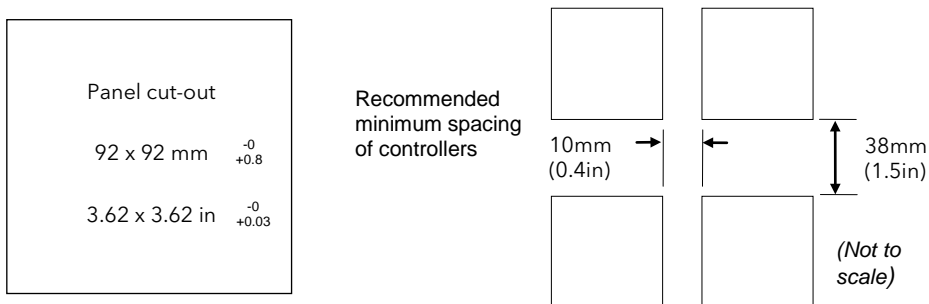

Figure 2-2: Panel Cut-out and Minimum Spacing Requirements
1. Prepare the panel cut-out to the size shown in Figure 2-2. Ensure that there is sufficient spacing between instruments as shown by the minimum dimensions given in Figure 2-2. Ensure also that the controller is not mounted close to any device which is likely to produce a significant amount of heat which may affect the performance of the controller.